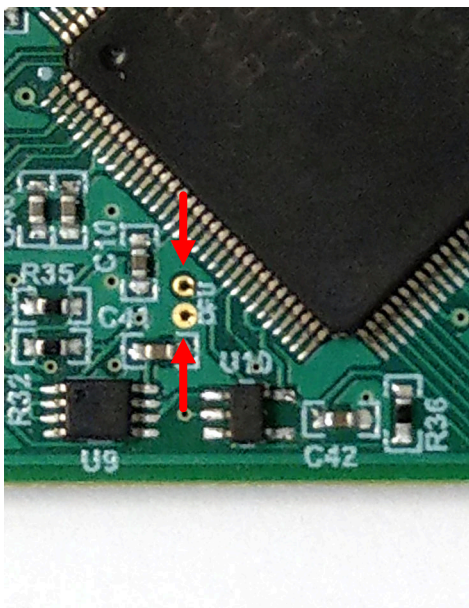

Figure 3-4. Test Points Used to Enter DFU Mode Manually
- Short the two test points labeled *DFU* (see Figure 3-4) with a pair of tweezers (or a wire) while pressing the RESET button. If this is done correctly, then LED D1 on the SCB turns off while LED D5 (the power LED) remains on. If LED D1 is still on, then the GUI firmware is still active and the device has not entered DFU mode.